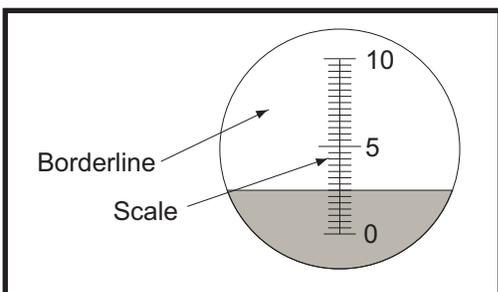

Figure 1
5. The scale and borderline should be visible (Fig. 1).
7. Read the value at the point where the borderline crosses the scale (Fig.1).